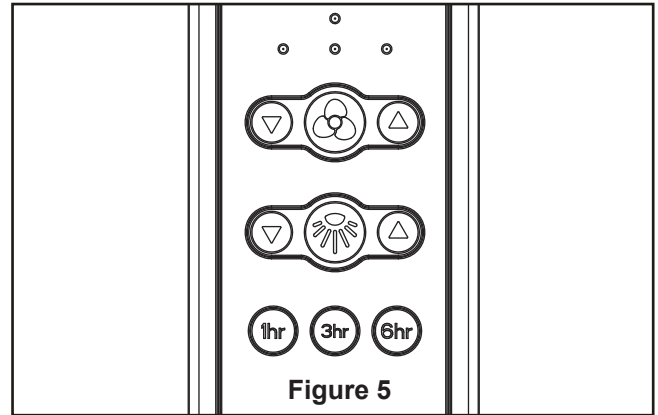

Figure 5
4. Hang the motor assembly as shown. (Figure 5)
- 5. Assemble the upper LED plate assembly to the light kit assembly using the two key slots in the upper LED plate assembly. Replace the third screw and securely tighten all three screws. (Figure 5)
5. Remote functions: (Figure 5)